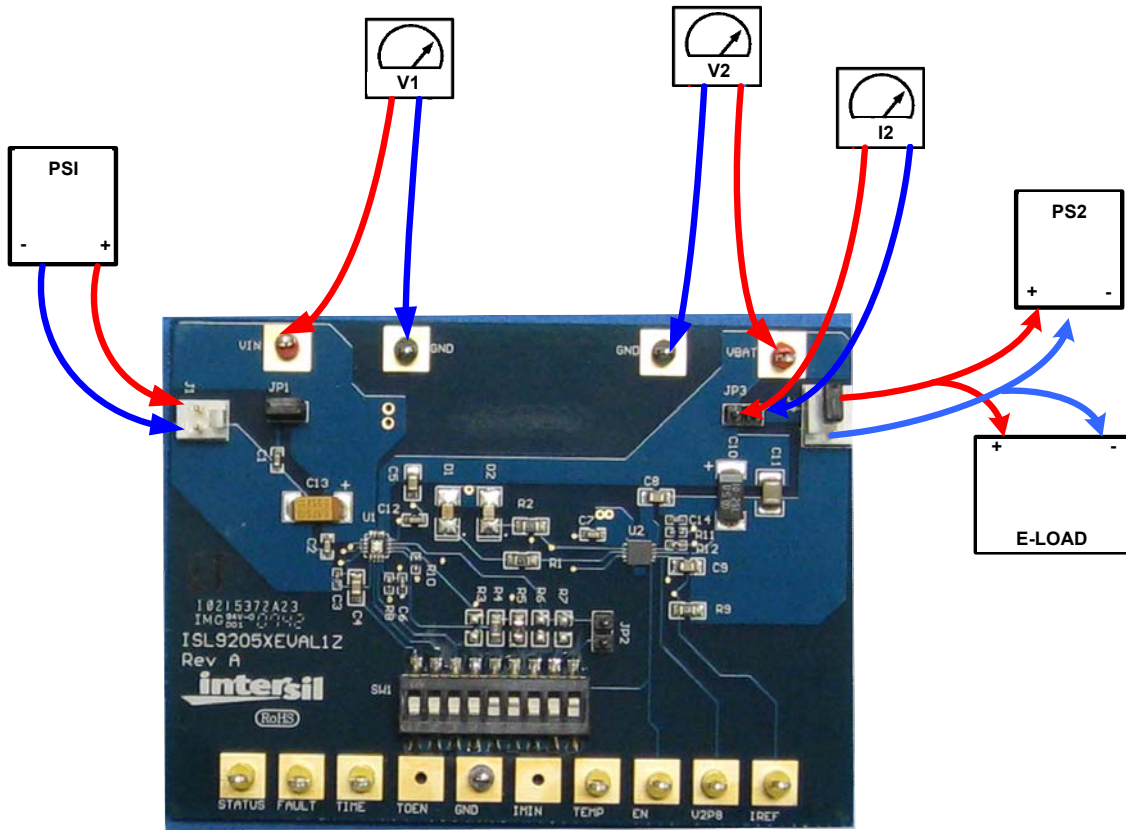

FIGURE 1. CONNECTION OF INSTRUMENTS
Quick Setup Guide (Refer to Figure 1)
- Step 2:* Insert a jumper shunt between pins 2 and 3 of J2, as shown in Figure 1
- Step 3:* Connect a 3.7V supply PS2 to J2 as shown in Figure 1, with the current limit set at 1.2A
- Step 5:* Connect amp-meter I2 as shown in Figure 1